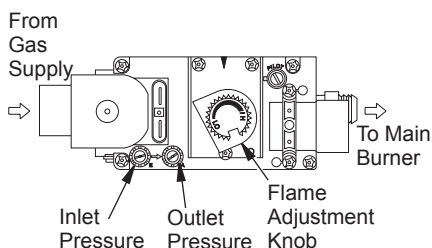

Figure 44 - Electronic Control Valve
The electronic system applies to the (V)DVF36TPNEA/TSTE A and (V)DVF36TPNPEA/TSTPE A models (see Figure 44).